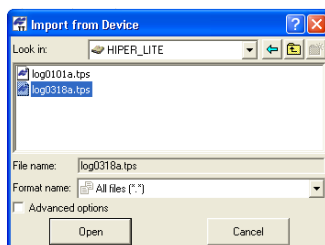

Figure 3-38. Select the Raw Data File to Import
5. To import the file(s) from the receiver to the current job, highlight the file(s), set the corresponding file format in the *Format name* field and click **Open** (Figure 3-38).